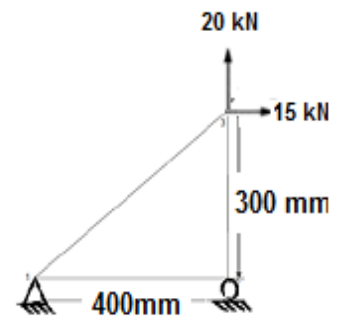

Figure-5
- (b) Using member stiffness method obtain the member forces in the plane truss shown in **figure-5** and determine the support reactions. Take $E = 200 \text{GPa}$ and $A = 2000 \text{mm}^2$. **07**